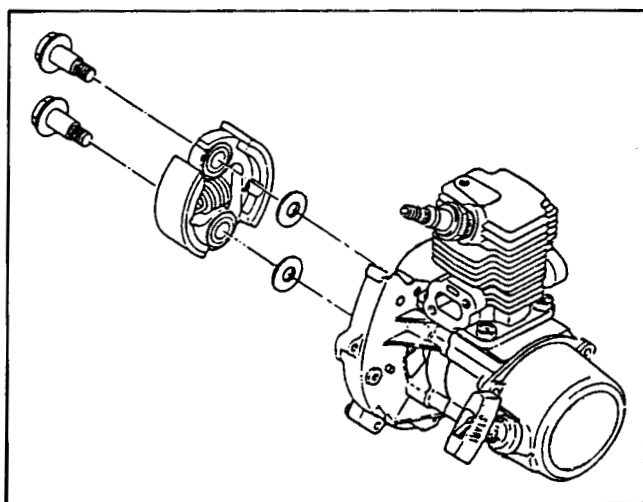

Figure 73
2. Insert the clutch bolts through the clutch shoes making sure that the markings you made note of earlier are facing up. Then slide a flat washer over the threads of each bolt so that the washer rests between the flywheel and the clutch shoes. See Fig. 73.